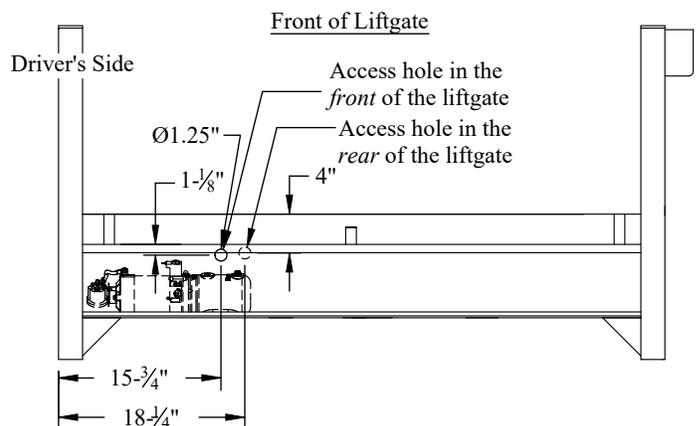

Figure 7: Spare tire access.
- Remove** and **Discard** the black plastic plugs from the mainframe at the location shown (Figure 7).